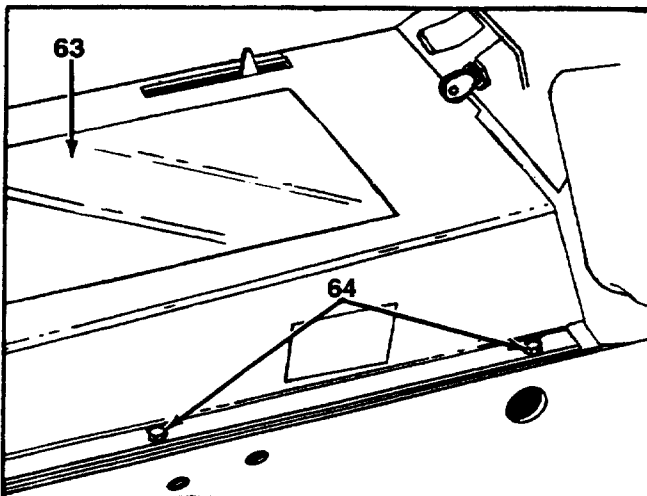

FIGURE 32.
35. Remove the frame cover from the center of tractor, by removing four self-tapping screws. See figure 32.